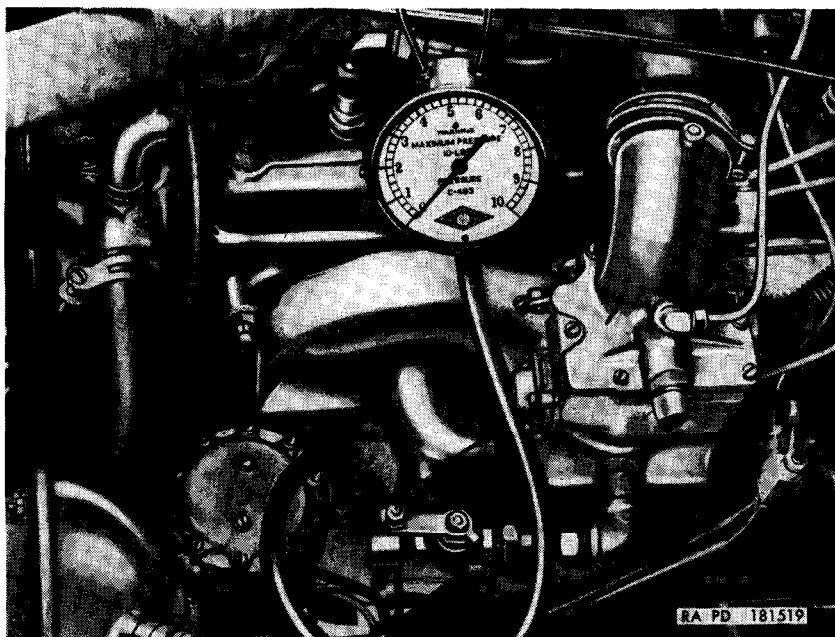

Figure 21. Testing fuel and vacuum pump pressure.
- (1) *Faulty carburetor choke action.* Remove air cleaner, operate choke, and observe if carburetor choke valve opens freely. If choke action is faulty, adjust choke linkage.
- (2) *Improper fuel pump pressure.* Disconnect fuel line from outlet side of fuel and vacuum pump. Install a pressure gage (fig. 21) in fuel and vacuum pump outlet.